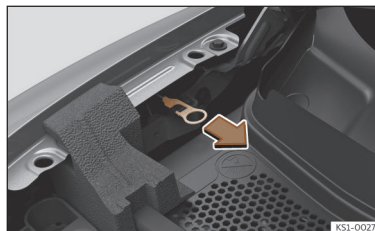

Fig. 60 Between the right wing and the front bonnet hinge: Charging connector manual release mechanism puller.
The handle for manual emergency release is on the right-hand side of the front bonnet compartment, above the charging socket >>> **Fig. 60.**
- Pull the puller >>> **Fig. 60.**